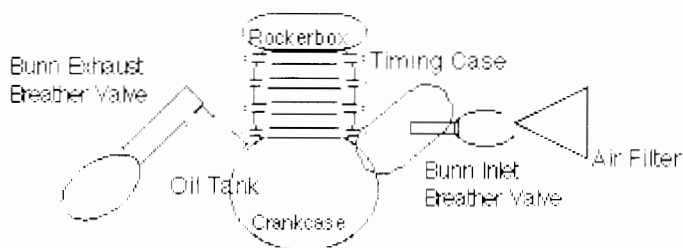

Figure 1- **Bunn Breather Schematic Diagram**
3.0 **Installing the Bunn Breather-** For the Royal Enfield Classic, de Luxe and Electra models, the Bunn Breather replaces the OEM breather tubes, duckbills and canister. (Refer Figure 1). The Bunn Inlet breather connects to the existing timing chest union. The Bunn Exhaust breather connects to the existing oil tank union. The existing breather tubes on earlier Bullets may vary. British Bullets connect via the OEM barrel breather and one other union.